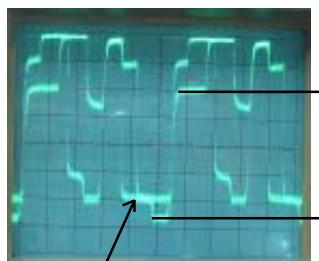

Fig. 2-2
6. Press the VOL. UP/DOWN button on the remote control until the red color level is adjusted to $120 \pm 5\%$ of the white level. (**Refer to Fig. 2-2**)